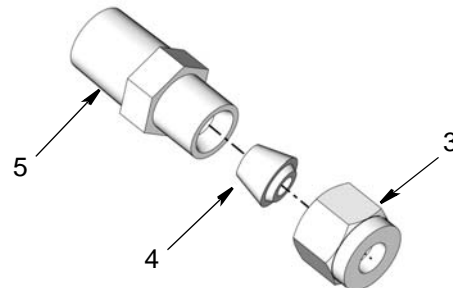

FIG. 2
3. Loosely assemble tube nut (3), tube ferrule (4) and tube fitting (5) (FIG. 2).
- Loosely assemble tube nut (3), tube ferrule (4) and tube fitting (5) (FIG. 2).